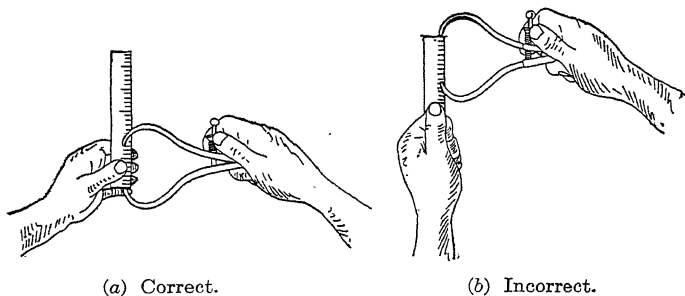

FIG. 61.
**77. Setting and Reading an Outside Caliper.**—To set an outside caliper hold the scale in the left hand with the end against the little finger as shown (a, Fig. 61) and in such a